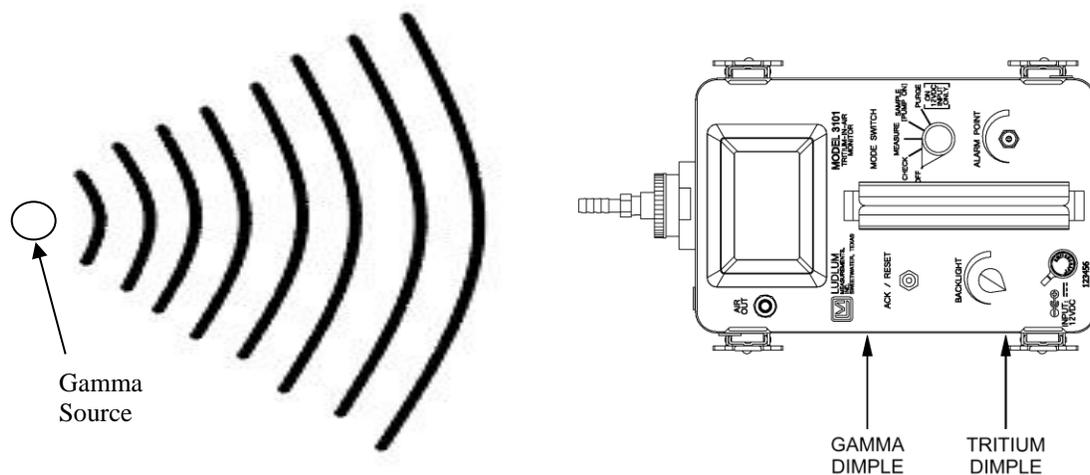

Figure A-2. Calibration Setup.
A.3.3 Placement of Model 3101 on the Gamma Range. Place the instrument on the gamma range with the front of the Model 3101 facing the gamma source (see Figure A-2). The dimple on the side of the can closest to the back end of the instrument marks the center of the tritium chamber for alignment purposes. To ensure a uniform gamma field, the instrument shall be at least 28 inches away from the radiation source.